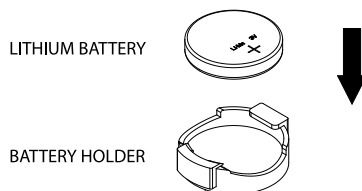

Figure 3-6. Installing the Onboard Battery
2. Use the handle to pull the carrier out of the chassis (Figure 3-6).